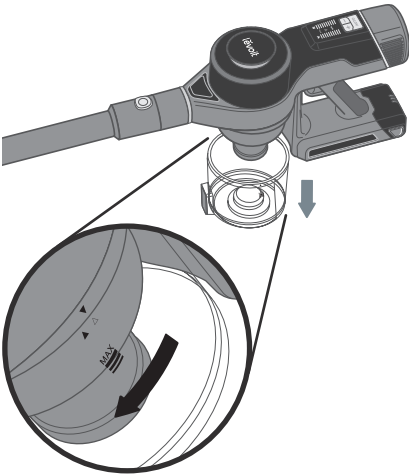

Figure 3.1
2. Rotate the dust bin clockwise to remove it [Figure 3.1]. Empty out any remaining dust and debris.